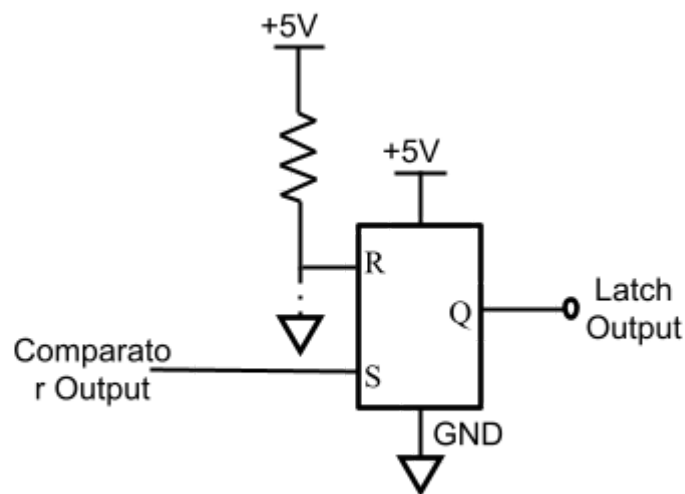

Figure 5.6 – Latch Circuit.
Connect the output of your circuit from Task 1 to the circuit shown in Figure 5.6. Be sure to connect Pin 5 (ENABLE) to high (+5V) to enable the device. The dotted line to ground at the reset (R) input will be your method to manually reset the latch. Connect one end of a wire to the R input of your latch. Leave the other end disconnected. When you want to reset the latch, briefly touch the other end to ground and then disconnect it again. This will momentarily put the low voltage (0V) on the R input and then bring it back to its normal high state once the latch has been reset.